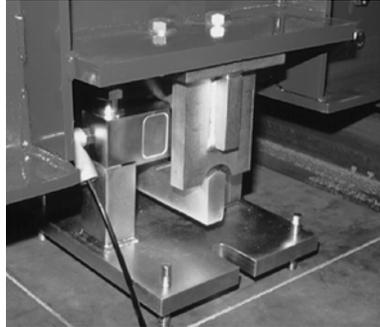
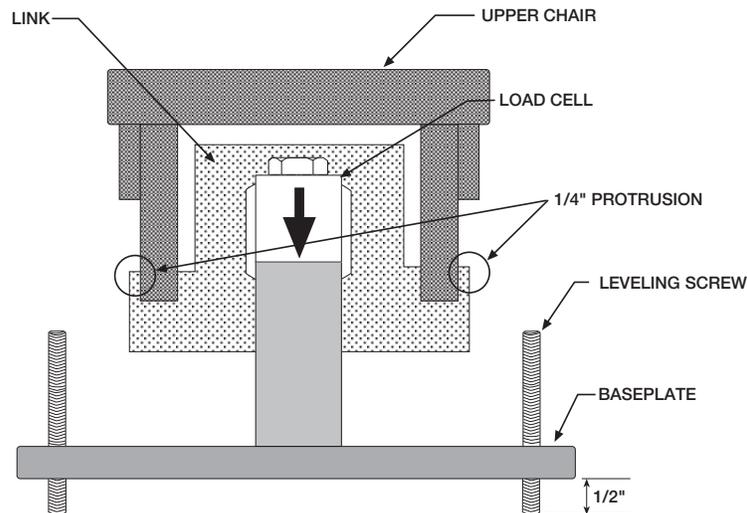

Figure 3-2. Final Mount Position
Figure 3-3. Load Cell Mount Parts
2. Level the plate in both directions. When the baseplate is directly under the chair, the link will be hanging vertical when centered in the chair, see Figure 3-2. Approximately 1/4" of the link should protrude beyond each side of the chair, see Figure 3-3.